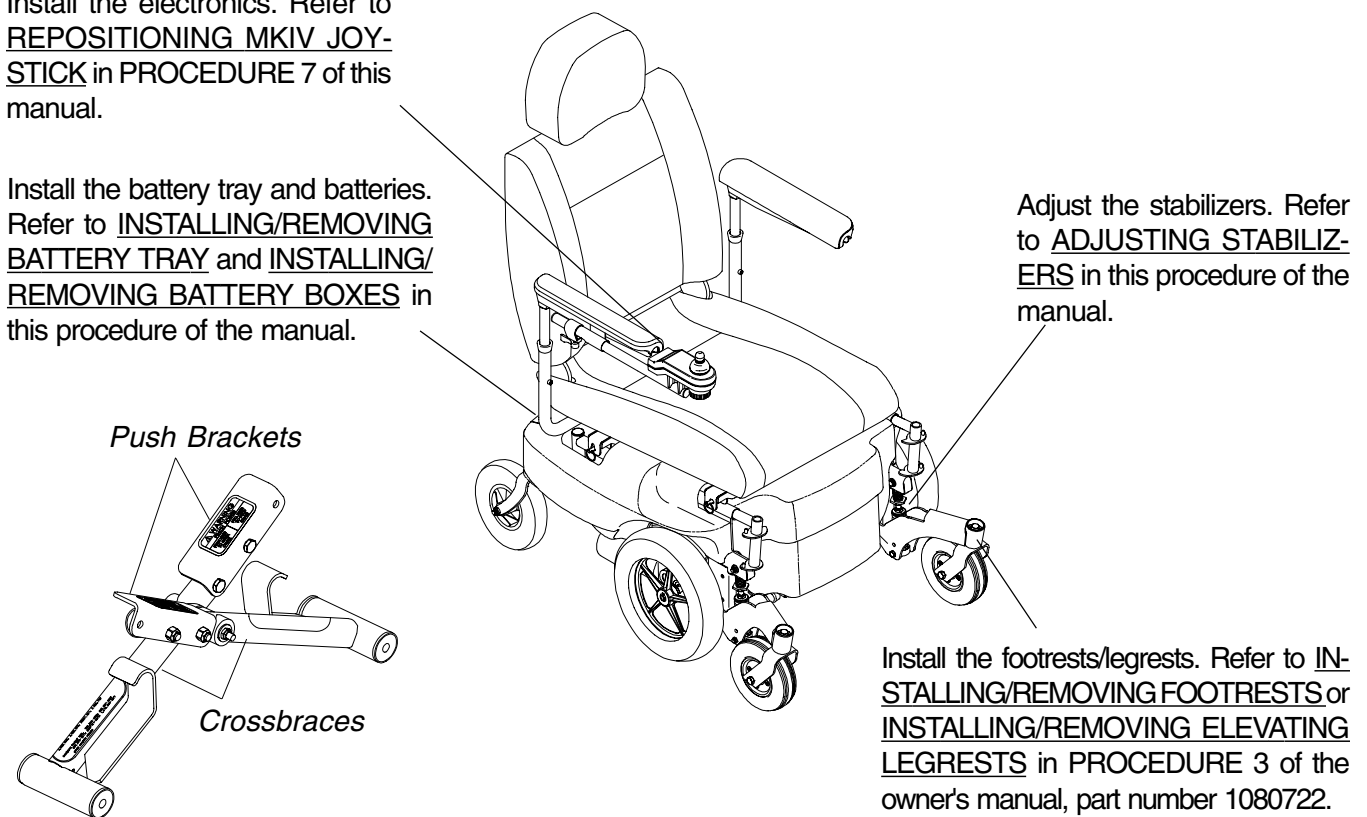

FIGURE 2 - ASSEMBLING RANGER II MWD - CAPTAIN'S SEATS
Unfolding/Folding Captain's Seats (FIGURE 2)**UNFOLDING.**
2. Assemble the wheelchair. Refer to FIGURE 2.
4. Remove the batteries, battery tray and footrests/legrests from the wheelchair. Refer to **FIGURE 2**.